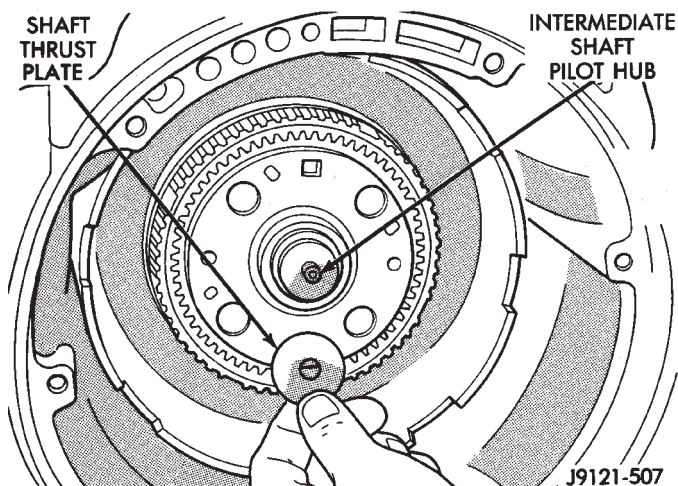

Fig. 111 Intermediate Shaft Thrust Plate
(22) Remove thrust plate from intermediate shaft hub (Fig. 111).